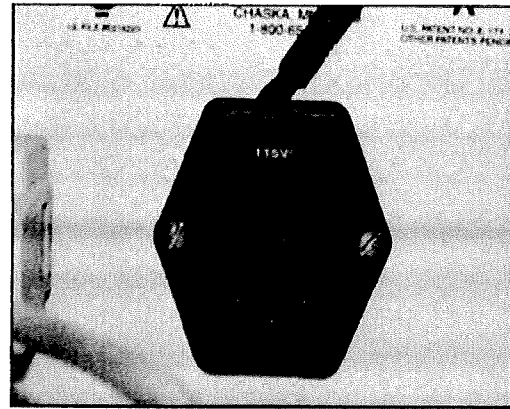

Figure 5.1
- Using a small, flat screwdriver, lightly pry open the fuse holder cover. The cover will drop down (**Figure 5.1**).